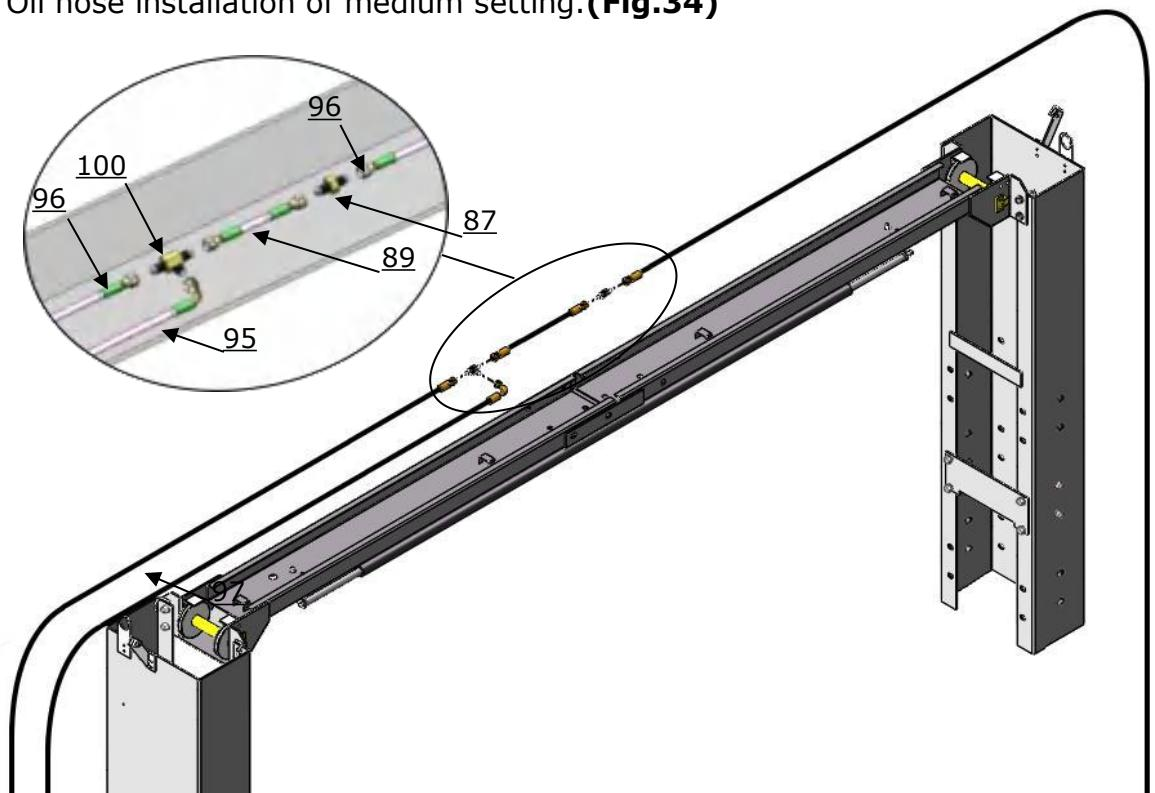

Fig.34
2. Oil hose installation of medium setting. (**Fig.34**)